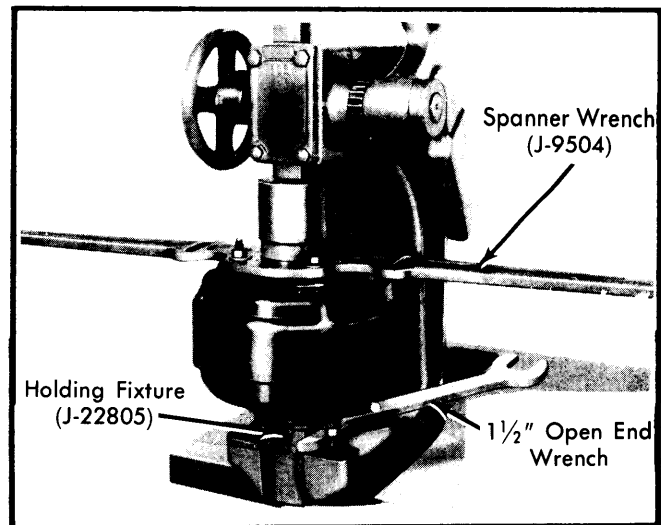

Fig. 2 Using Arbor Press and Suitable Tools to Separate Unit
9) Place unit and holding fixture in arbor press with rear unit up. Place a 1½" wrench on holding fixture and allow wrench to contact rear of arbor press to prevent unit from turning. See Fig. 2.